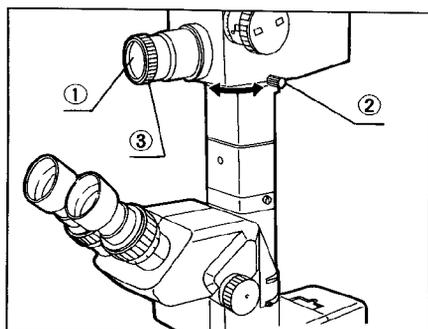
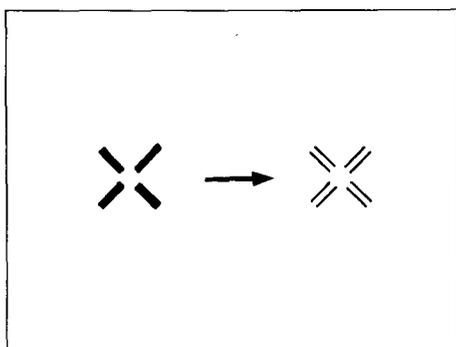

Fig. 12
Fig.13
- (1) As focusing of photomicrographic equipment is impossible on the binocular tube (because this microscope is not designed to maintain parfocality between observation and photomicrography), be sure to use the viewer ① of the photomicrographic equipment for focus adjustment for photomicrography. (Fig. 12)
- (2) If the eyepieces interfere with locking through the viewer of the photomicrographic equipment, either remove the eyepieces or loosen the clamping knobs ② to turn the photomicrographic equipment (Fig. 12).
- (3) For the framing of the photomicrographic equipment, either turn the specimen or loose the microscope body clamping knobs of the stand to turn the microscope body.
(4) Looking through the viewer of the photomicrographic equipment, bring the double cross lines into focus by turning the diopter adjustment ring ③ (Fig. 12) of the viewer. Adjust until both cross lines are clearly distinguishable from each other. (Fig. 13)
(5) Turn the focusing knobs until both cross lines and the specimen are sharply in focus.